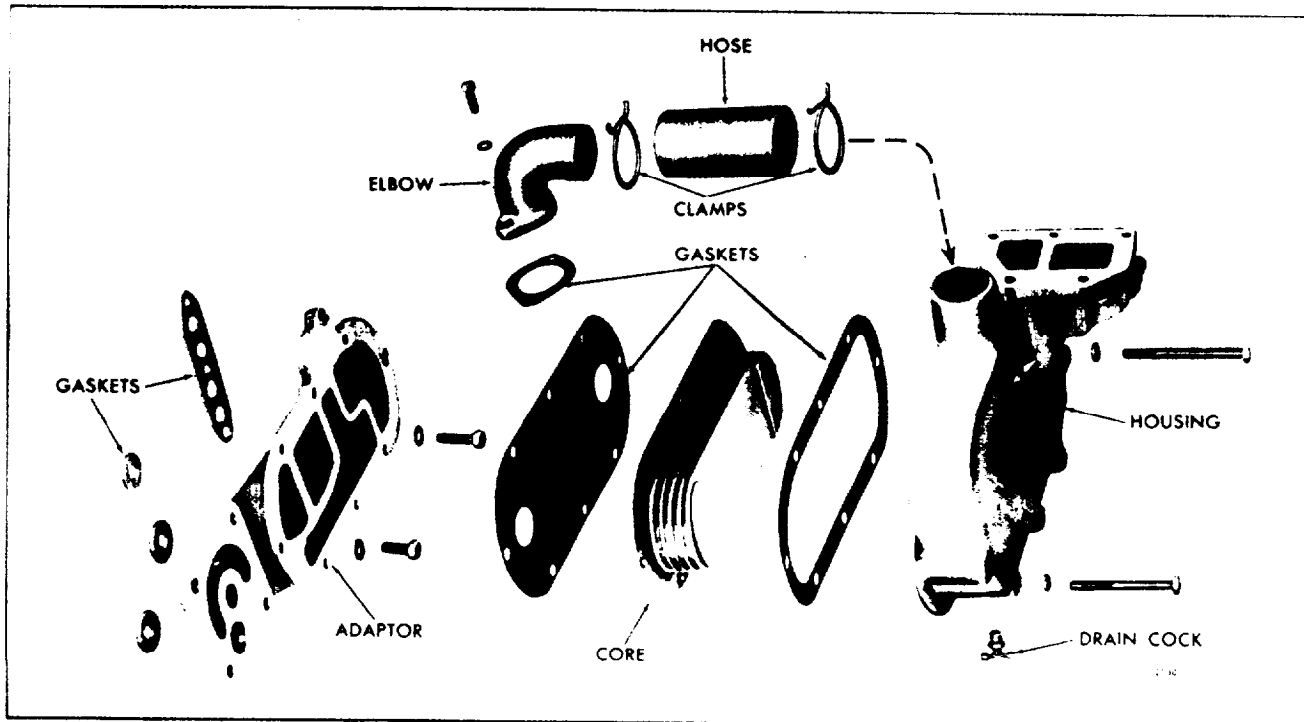

Fig. 3 - oil Cooler Details and Relative Location of Parts (In-Line Engine)
1. If the oil cooler adaptor (In-Line engines) was removed from the cylinder block, remove the old gasket material from the bosses where the adaptor sets against the block. Affix new adaptor gaskets (Fig. 3), then secure the adaptor to the cylinder block with five bolts and lock washers.
2. Clean the old gasket material from both faces of the core flange and affix new gaskets to the inner and outer faces (Fig. 3). Insert the core into the cooler housing.